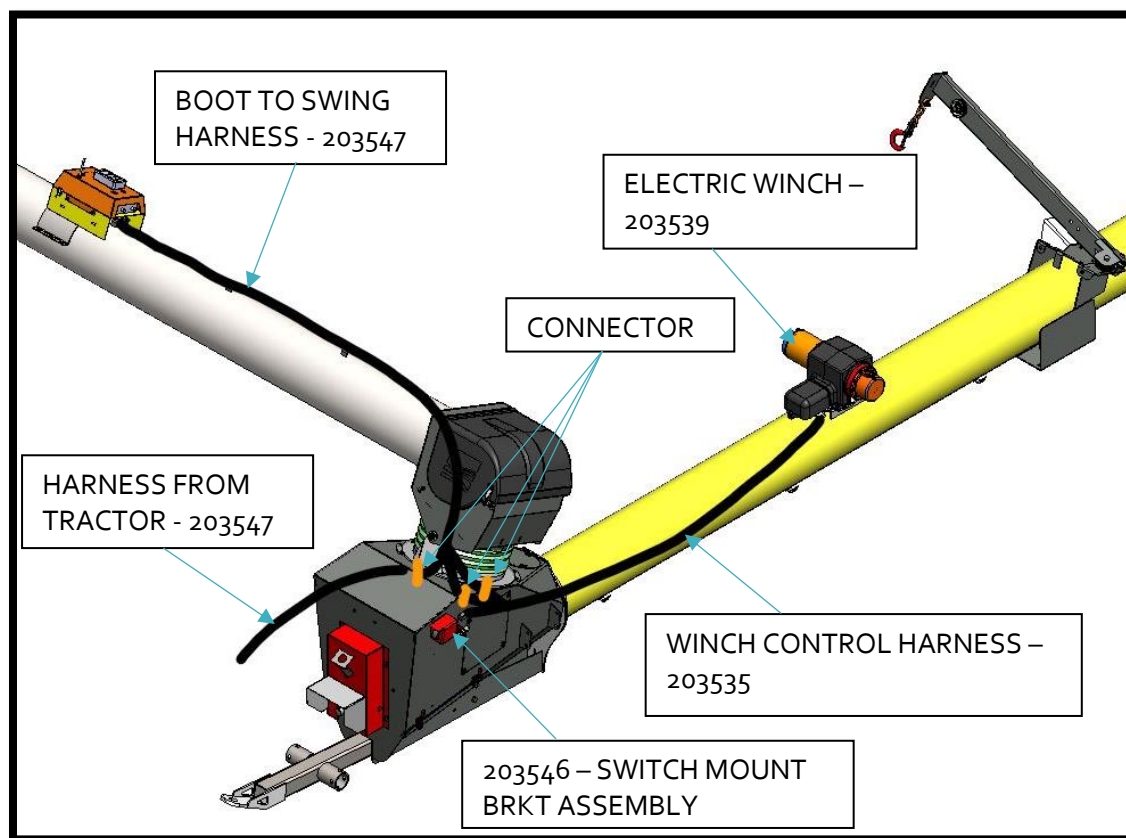
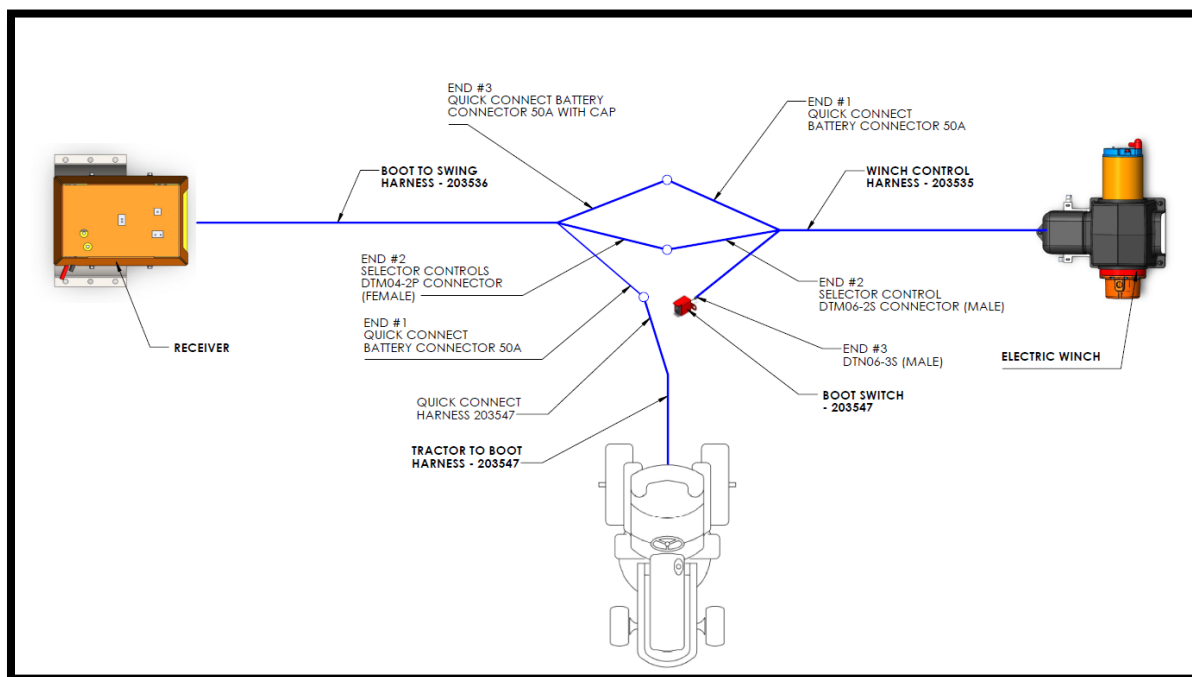

Figure 9: Harness routing from Tractor to Boot to Receiver & Electric Winch
Figure 10: Harness connections of Tractor to boot to winch & receiver
Step 3: Route the winch control harness (203535) and boot to swing harness (203536) to the boot as shown in Figure 9 and connect both to tractor harness and boot switch as shown in Figure 10. Fasten Harnesses to cable clamps after connecting.
- Attach tractor wire harness (203547) quick connect to the receiver cable (203536) quick connect battery connector 50A (END #1) as shown in Figure 10.
- Attach winch control harness (203535) quick connect battery connector 50A (END #1) to the quick connect battery connector 50A with cap (END #3) of boot to swing harness (203536) as shown in Figure 10.
- Connect selector controls connectors male/female (END #2) of both harnesses, 203535 and 203536 as shown in Figure 10.
- Connect quick connect of E-winch switch (203546) on the boot to END#3 of winch control harness (203535) as shown in Figure 10.